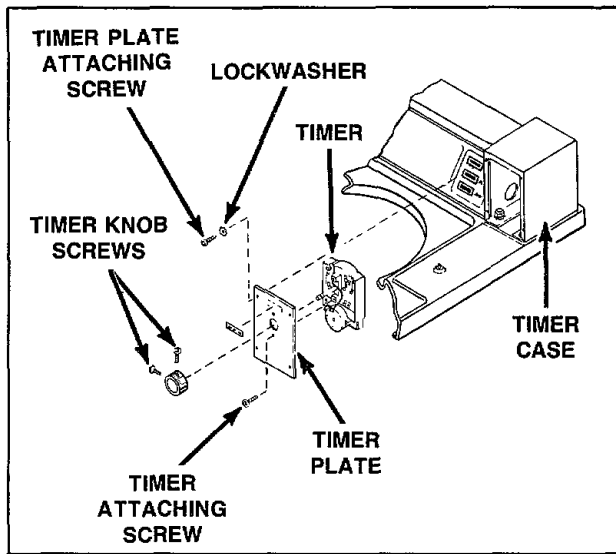

Figure 6
5. TIMER ASSEMBLY – Nonmetered Models (Refer to Figure 6)